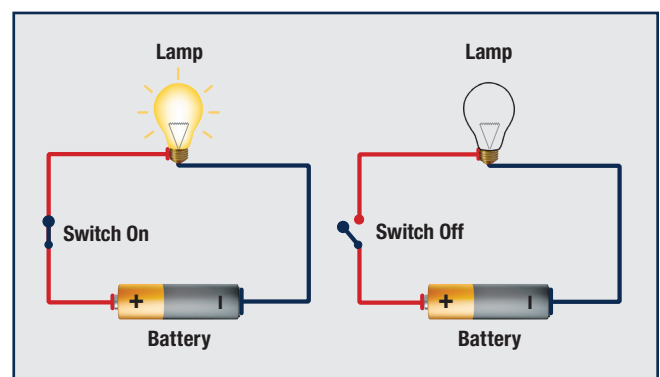

Figure 4. A closed circuit allows the current to flow to the light. An open circuit interrupts the current and the light is off.
- The flashlight you made today is an example of a simple direct current (DC) circuit. Simple circuits include a power source, a conducting medium (like a wire) and a load. In your simple circuit, the power source is the coin cell battery, the conducting medium is the copper tape and the load is the LED.
- Your flashlight also includes a switch, which is used to alter the flow of electrons in a circuit. In an open circuit (switch in the “off” position), the flow of electrons is blocked, and no light is emitted. When a circuit is closed (switch in the “on” position), the electron flow is unblocked, and light is emitted (Figure 4).